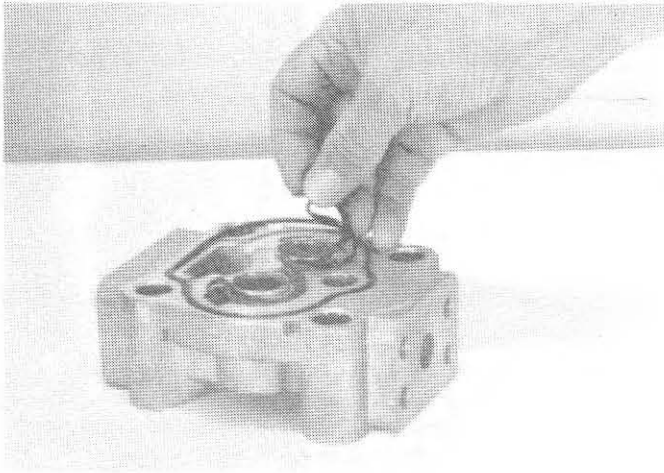

FIG. 5
7. Remove cover plate o-ring (10), pressure balance o-ring (9), and nylon back-up strip (8). (Fig. 5)